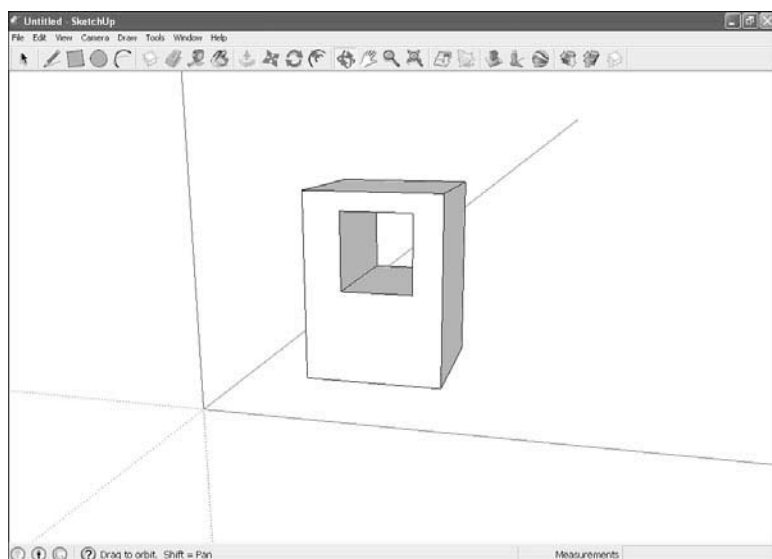

FIGURE 5.14 A 3D object with a cutout.
6. Push the rectangle through the object to the other side with the Push/Pull tool. The part you've pushed disappears, leaving a cutout, as you can see in Figure 5.14.